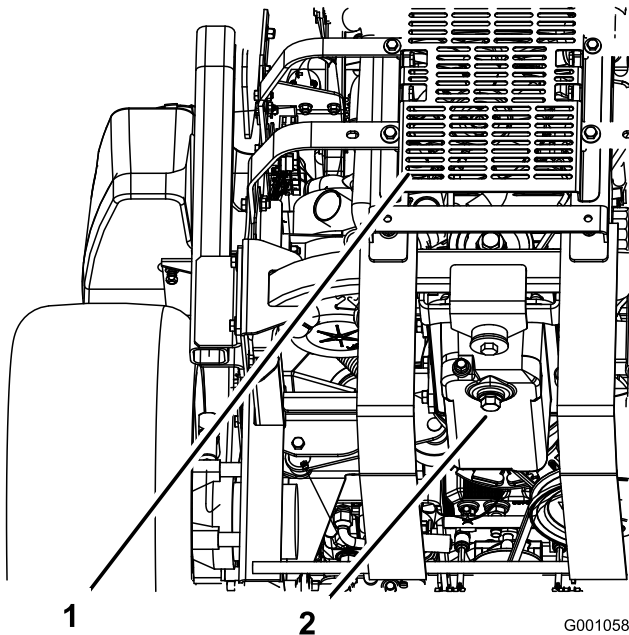

Figure 50
5. Place a pan below the oil drain. Remove the drain plug and let the oil drain completely (Figure 50).